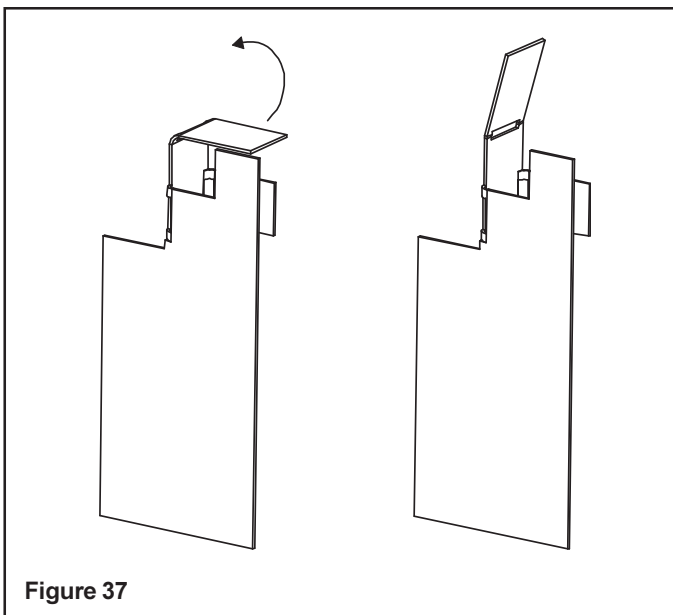

Figure 37
- Bend top retaining tab of grate shipping support into vertical position (see Figure 37).
- Remove the glass door from the unit (see Figure 37).